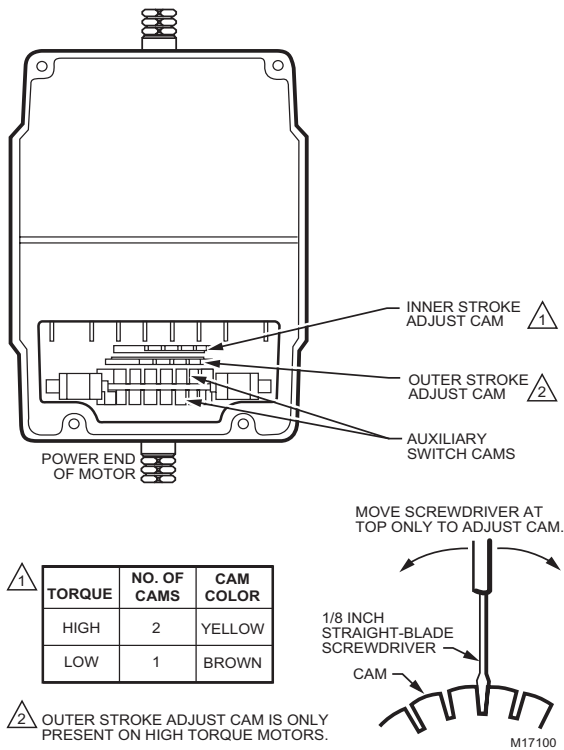

Fig. 10. Stroke adjustment setup for non-spring return models.
See Fig. 10. Repeat in successive cam slots until the inner cam is against the stop.
See Fig. 10. Repeat in successive cam slots until the outer cam is against the stop.
3. Insert 1/8 in. screwdriver blade into a slot on inner cam and move the screwdriver top as far as possible clockwise (viewed from the power end). See Fig. 10. Repeat in successive cam slots until the inner cam is against the clockwise stop.